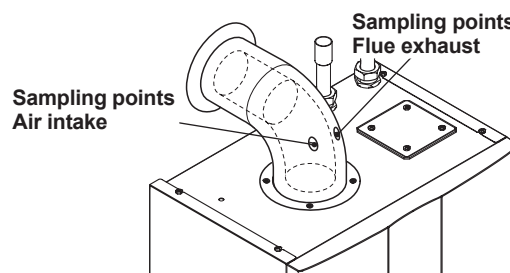

Figure 8.4
- 11 Fit the probe of the flue analyser in the flue exhaust sampling point located on the exhaust pipes of the boiler (Figure 8.4).